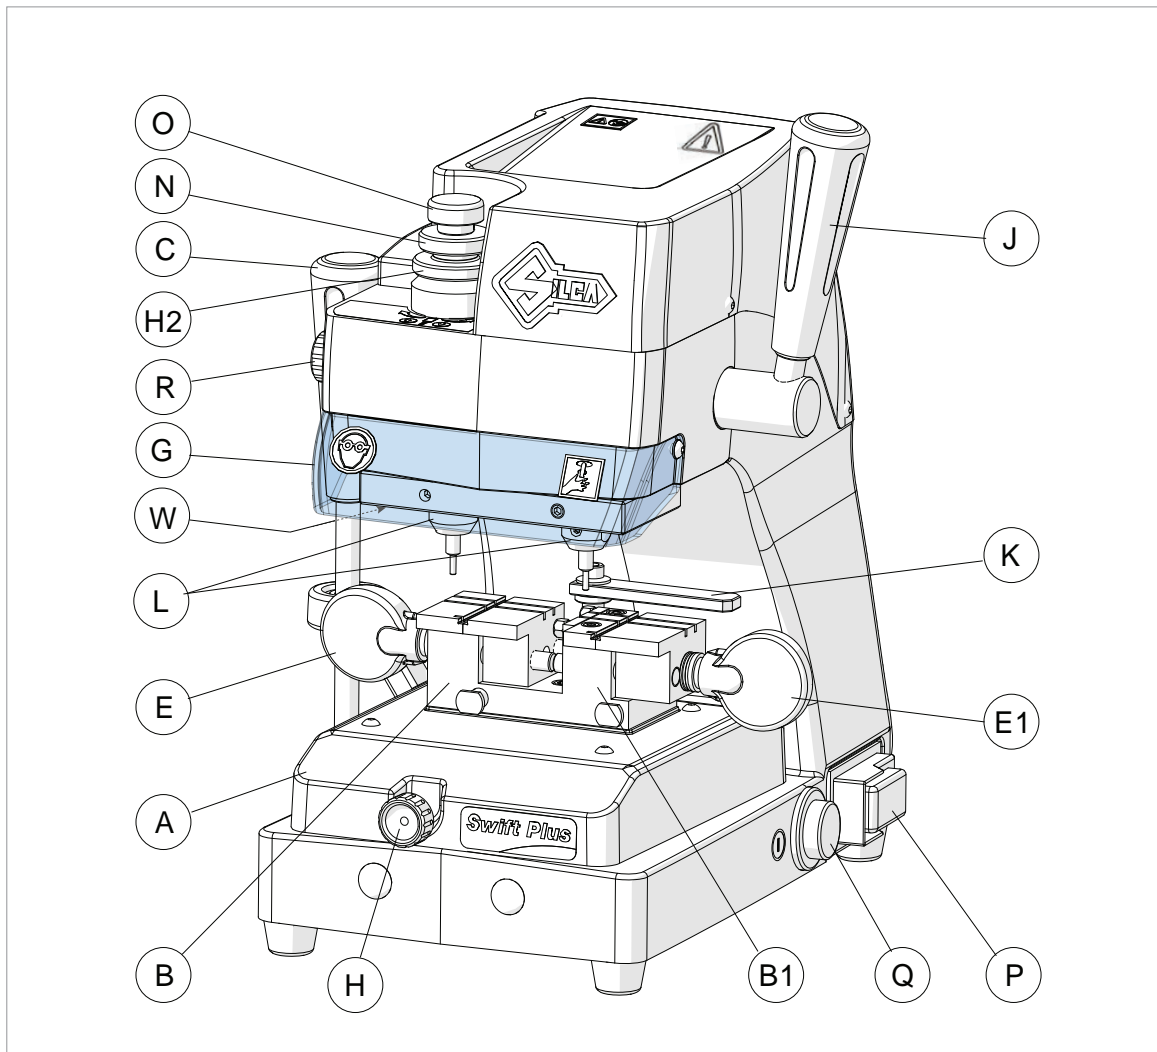

Fig. 8
- lever (J) for vertical carriage (Z axis)
- lever (C) X-Y axes
**Note: the letters in brackets refer to Fig. 8, page 9.**